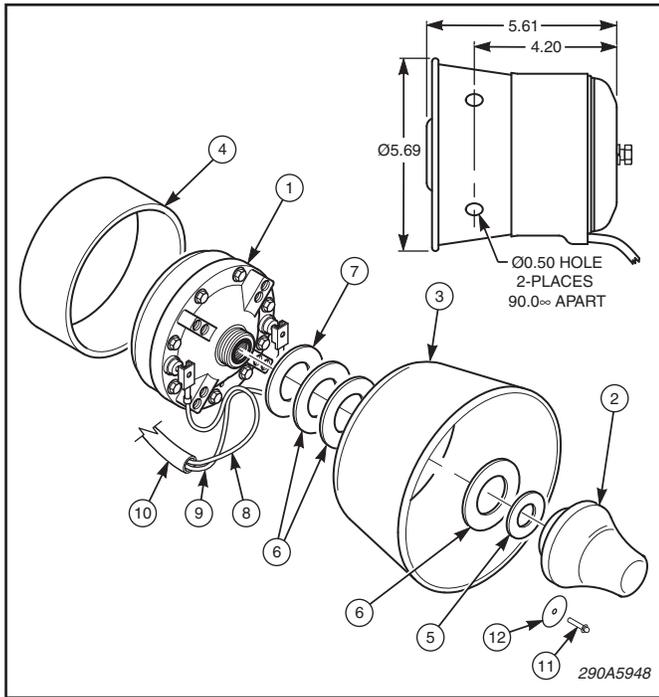

Figure 4.
6. See Figure 4. Reassemble the stainless steel projector and projector cone along with the fiber and steel washers in their proper assembly order. See Figure 4.